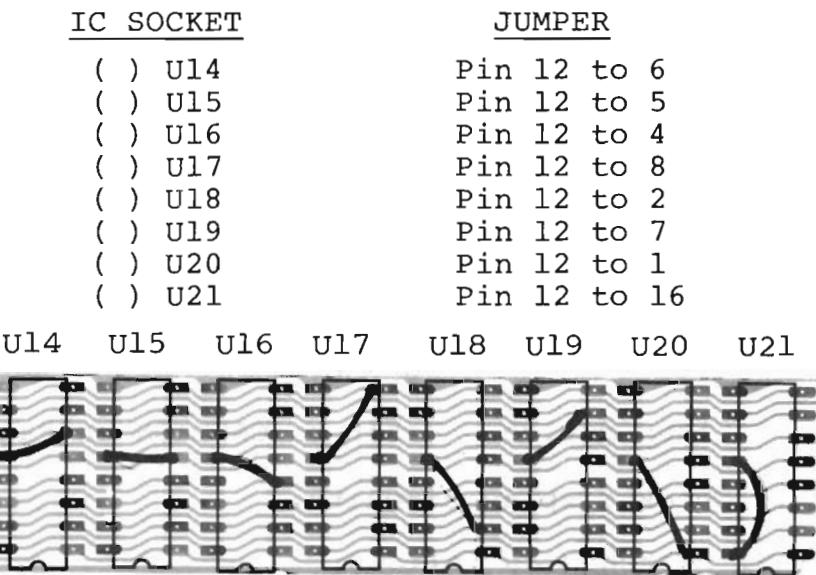

Figure 3-7. U14 through U21 socket jumpers.
- ( ) Using #24 wire, NOT CLIPPED COMPONENT LEADS, install the following TEMPORARY jumpers in the sockets for U14 through U21. Double check jumpers after installing for correctness. (See Figure 3-7.)